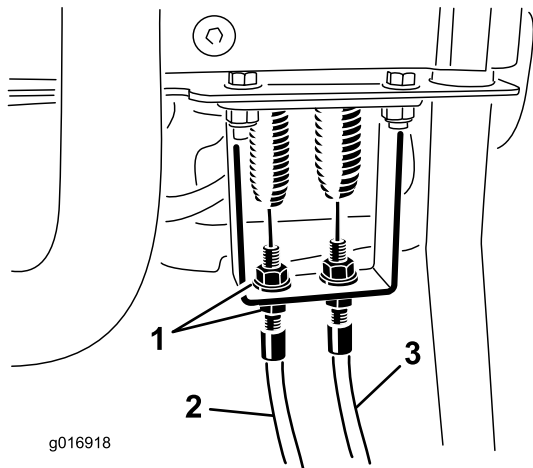
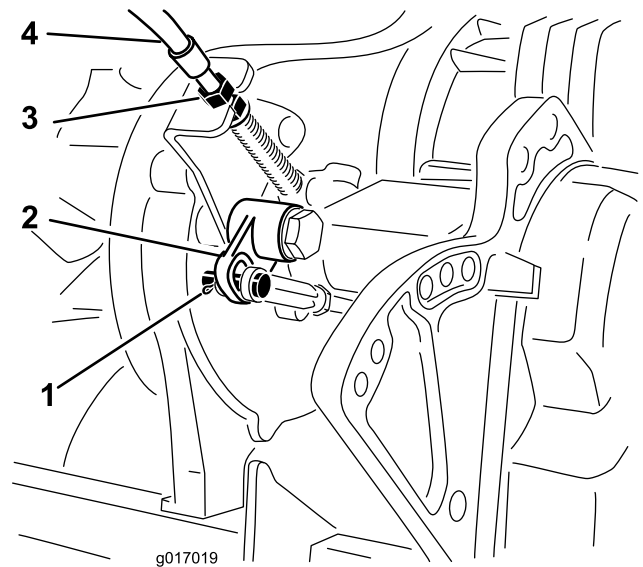

Figure 45
Figure 46
2. Check to see if there is any slack in the traction control cable at the extension spring (Figure 45). If slack exists, adjust the jam nuts at the bulkhead (Figure 46) to remove the slack from the cable without extending the spring.
7. At the transmission bulk head (Figure 46), adjust the cable jam nuts to decrease the distance to the bell crank to accommodate the previous change.
8. Adjusting the cable at the control panel bulk head, adjust the cable jam nuts to remove any slack in the cable without extending the spring (Figure 45).
4. Remove the cotter pin and clevis pin securing the bell crank rod clevis to the bell crank lever. Disconnect the clevis from the bell crank lever (Figure 46).
3. At the control handle bulkhead, loosen the reel control cable until there is slack in the cable (Figure 45).